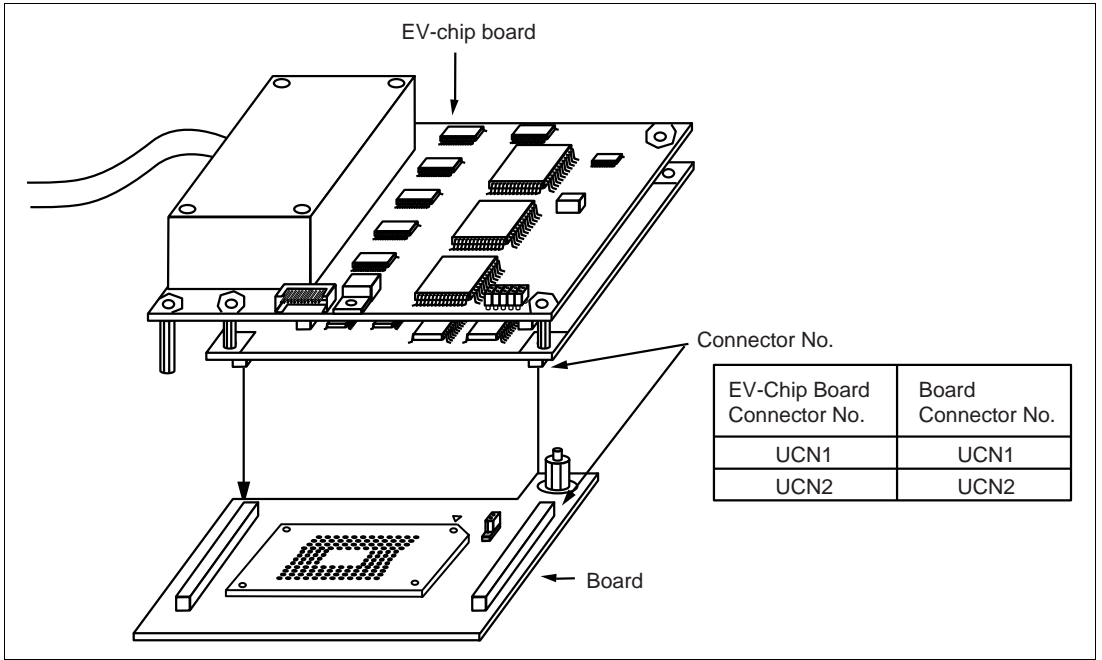

Figure 4 Connecting User System Interface Board to EV-Chip Board
- (3) Install the provided guide pins into the holes for the guide pins on the user system. Check that the pads are correctly aligned with the IC socket.
(4) Notes on soldering the IC socket
- a) The IC socket is larger than the actual IC package; therefore, refer to figure 4 for the installation of other components.
2. Align the connectors on the board with those on the EV-chip board according to their numbers (figure 4).